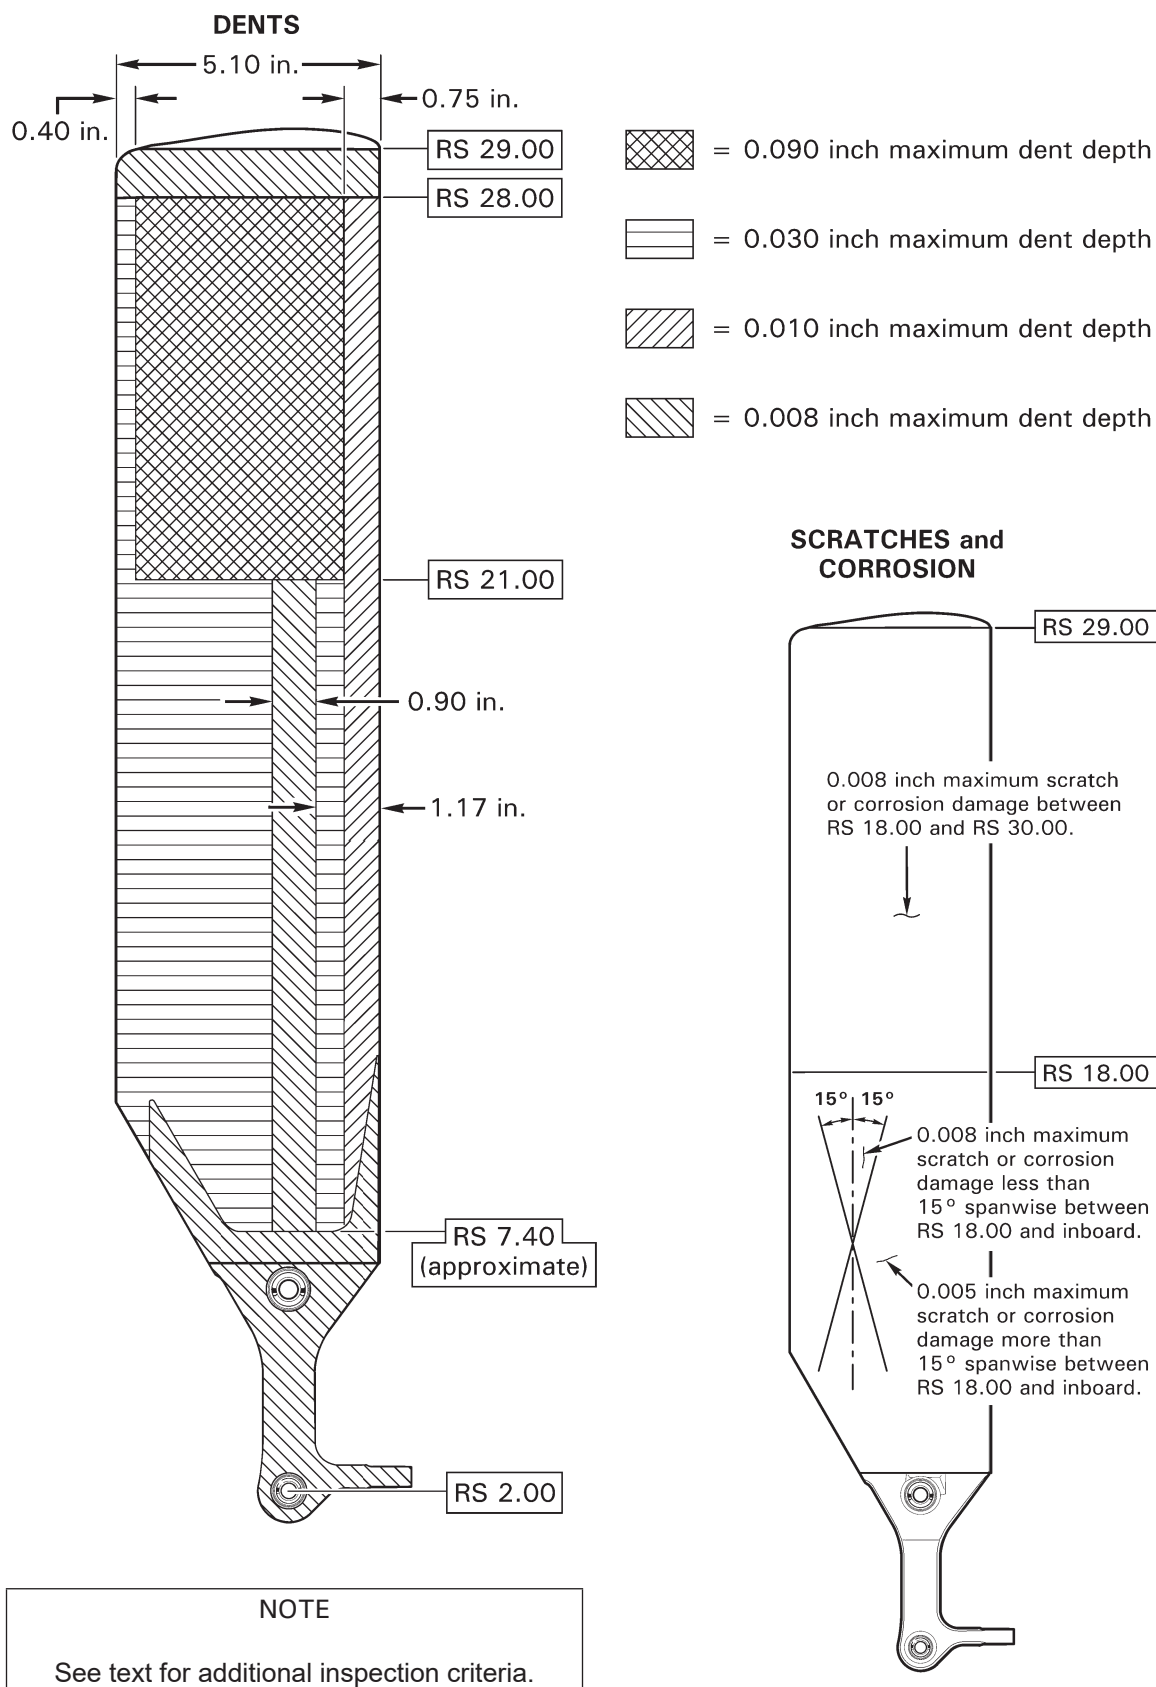

FIGURE 30-5 TAIL ROTOR BLADE INSPECTION CRITERIA
1. Refer to Figure 30-5. Verify damage does not exceed the following limits:
1. Refer to Figure 30-5. Smooth, round bottom dents with 0.060 inch minimum radius may be repaired when damage does not exceed the following limits: